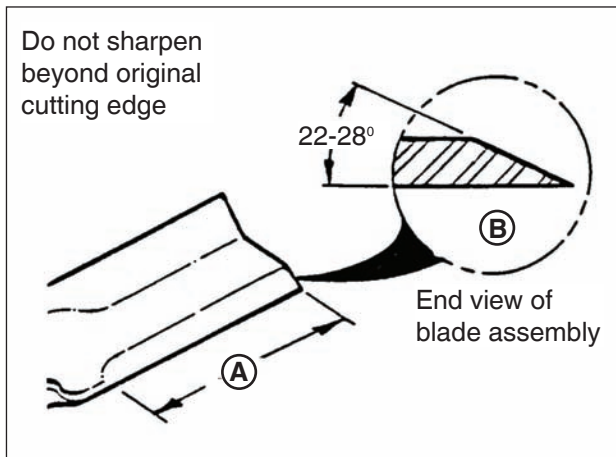

Figure 21: Sharpening the mower blade
- Sharpen the blade on a grinding wheel at an angle of 22 to 28 degrees (**B, Figure 21**). DO NOT sharpen the blade beyond the original cutting edge (**A**).